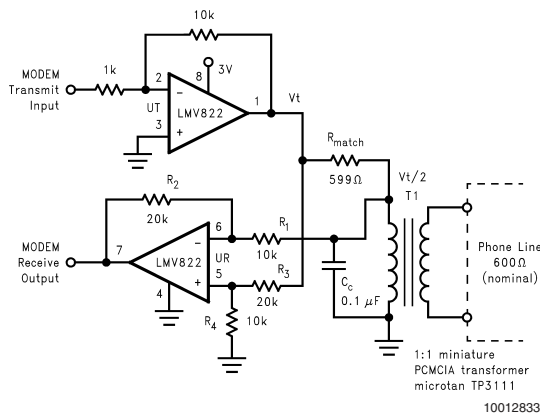

FIGURE 7. Telephone-line Transceiver for a PCMCIA Modem Card
The telephone-line transceiver of *Figure 7* provides a full-duplexed connection through a PCMCIA, miniature transformer. The differential configuration of receiver portion (UR), cancels reception from the transmitter portion (UT). Note that the input signals for the differential configuration of UR, are the transmit voltage (V_T) and $V_T/2$. This is because R_{match} is chosen to match the coupled telephone-line impedance; therefore dividing V_T by two (assuming $R_1 \gg R_{match}$). The differential configuration of UR has its resistors chosen to cancel the V_T and $V_T/2$ inputs according to the following equation: